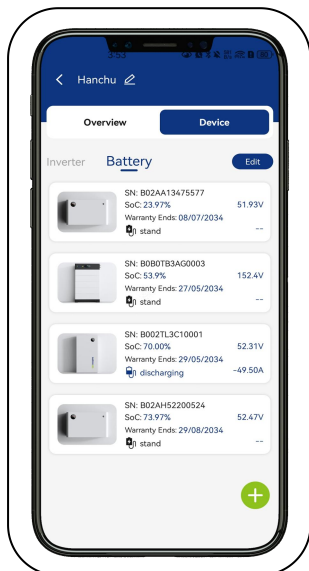

Figure 42
- Click "Confirm" to complete the setting, as shown in Fig 42. And more smart functions are waiting for you to discover.